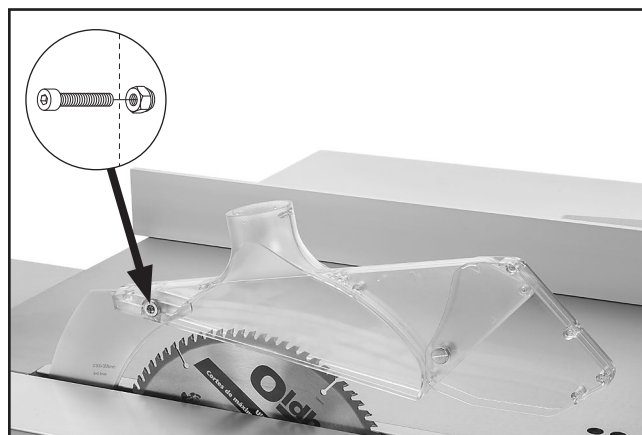

Figure 53. Blade guard installed onto splitter.
52. If splitter/riving knife was installed earlier—instead of riving knife—raise main blade all the way up and attach blade guard with (1) M10-1.5 x 25 cap screw and (1) M10-1.5 lock nut, as shown in **Figure 53**.